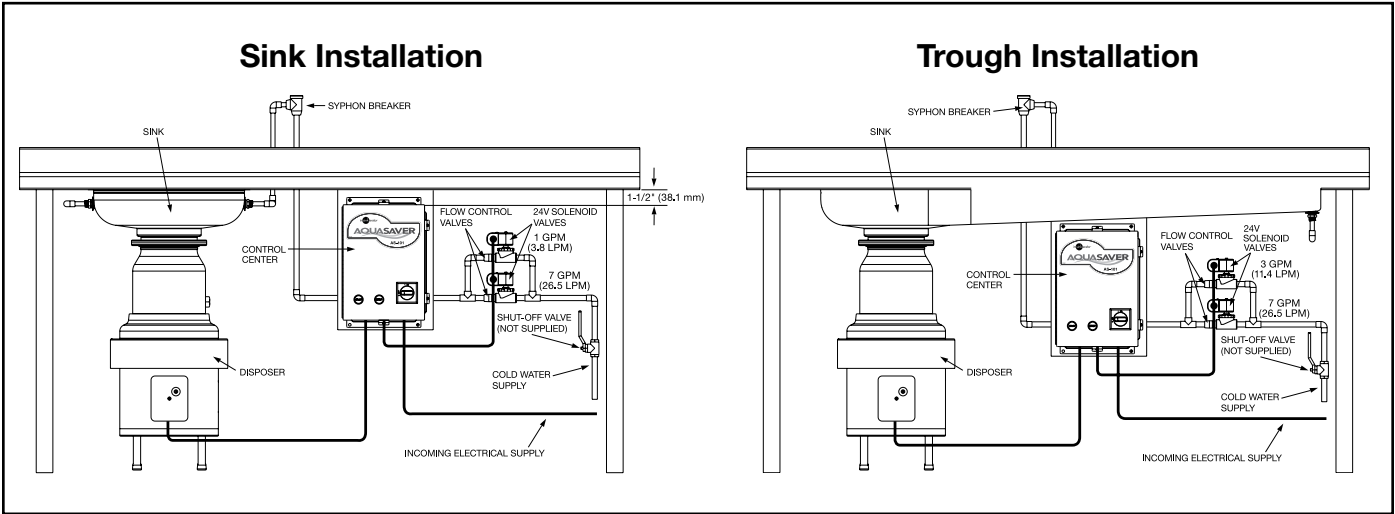

Figure 2. Typical Installation Diagram
**NOTE:** The AS-101K control center requires the use of two solenoid valves and two flow control valves. Figure 2 shows the proper installation for an AS-101K control center.